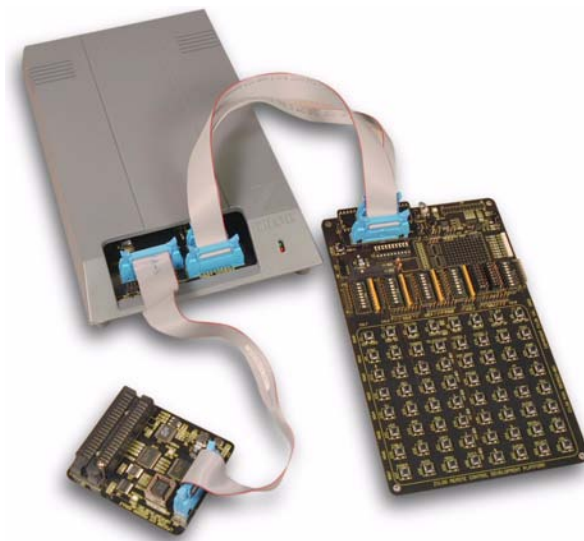

**Figure 2. Connecting a PC to the Crimzon ICE**
1. Connect a CAT-5 crossover cable from the PC to the Ethernet port on the Crimzon ICE. See Figure 2.